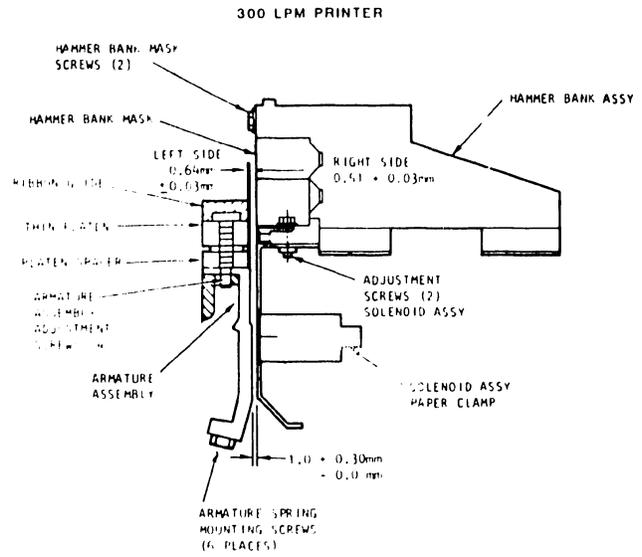

Figure 3-49. Paper Clamp Armature Assembly Adjustment, Thin Platen
- n. See figure 3-49 for the thin platen/armature plate configuration. Adjust for the thin platen and armature plate offset dimensions as follows: